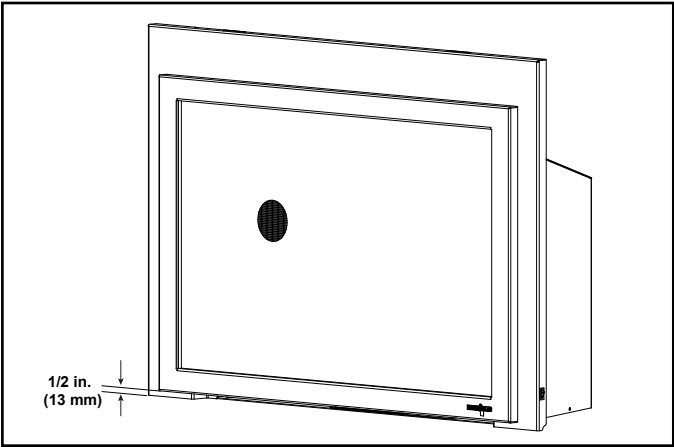

Figure 3.14 Minimum Required 1/2 inch (13 mm) Gap to Bottom of Front
- 1/2 inch (13 mm) gap under the bottom of the front must be maintained. See Figure 3.14.